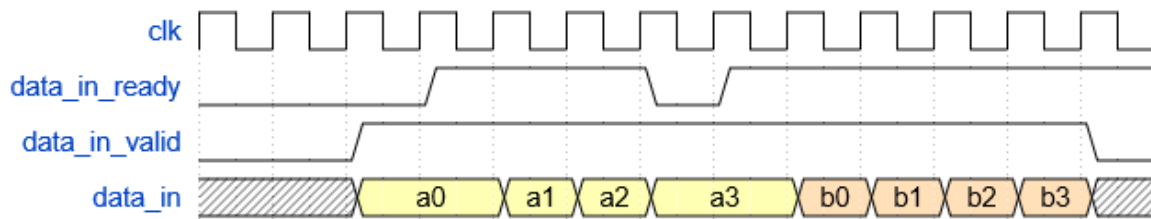
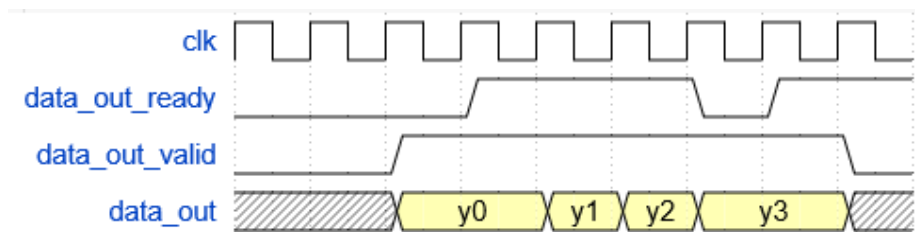

Figure 1. Input interface.
Figure 2. Output interface.
- If $data_in/out_valid$ is high and the corresponding $ready$ signal is low in a particular clock cycle, then $data_in/out_valid$ must be high also in the following clock cycle and the $data_in/out$ signal must retain its previous value. This situation is illustrated for the data transfer of $a3$ and $y3$ in Figure 1 and Figure 2.